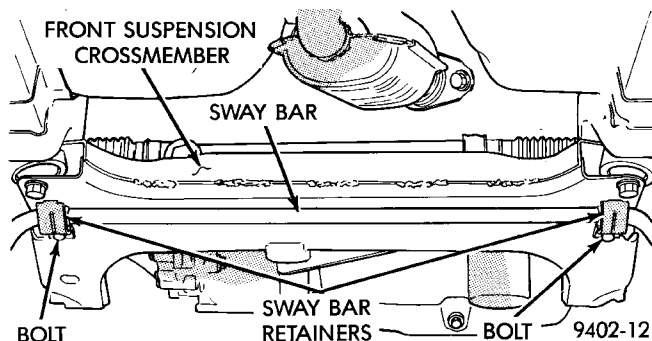

Fig. 40 Front Stabilizer Bar Bushing Retainers
(3) Remove bolts at front crossmember to stabilizer bar bushing retainers (Fig. 40). Then remove bushing